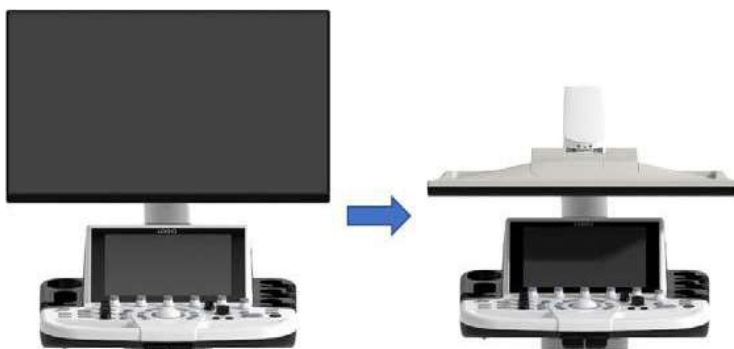

Figure 3-29. Monitor position for moving system
2. Adjust the monitor as shown in Figure 3-29 *on page 3-50*